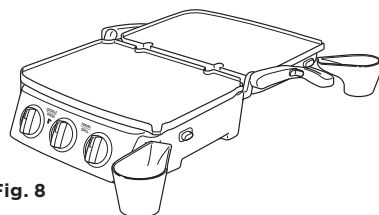

Fig. 8
- Use two drain collection cups. (Fig. 8)